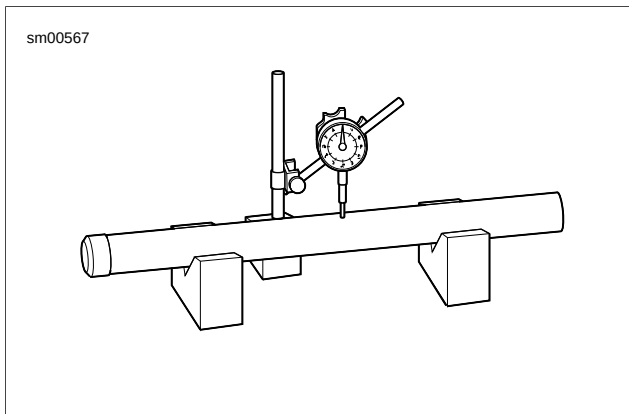

Figure 2-94. Slider Fork Runout
3. Check the slide bushing (16) and the guide bushing (17) for excessive wear or scratches. Replace if damaged or worn.
4. Replace the stopper ring (13) if distorted.
5. Measure spring (12) free length. For XB12STT, the springs should be replaced if they are shorter than the service wear limit of 16.77 in. (426.0 mm).
8. See Figure 2-94. Measure slider fork runout. Replace pipe if runout exceeds the service wear limit of 0.008 in. (0.2 mm).